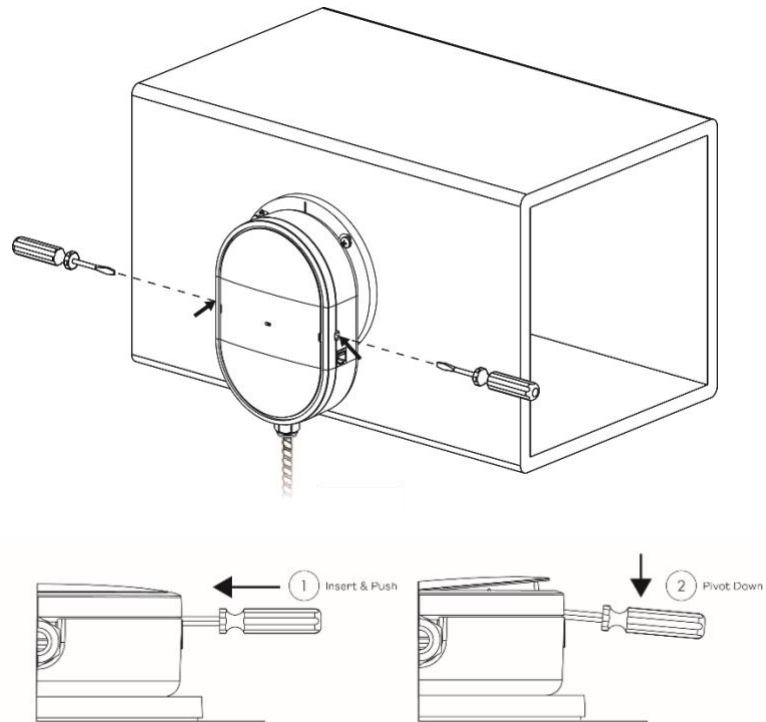

Figure 7: Remove the front cover on the RapidPURE by inserting a tool on either side, pushing and pivoting as shown.
- b. Remove the front cover by inserting a flat screwdriver into either side of the RapidPURE chassis, push and pivot as illustrated in Figure 7.